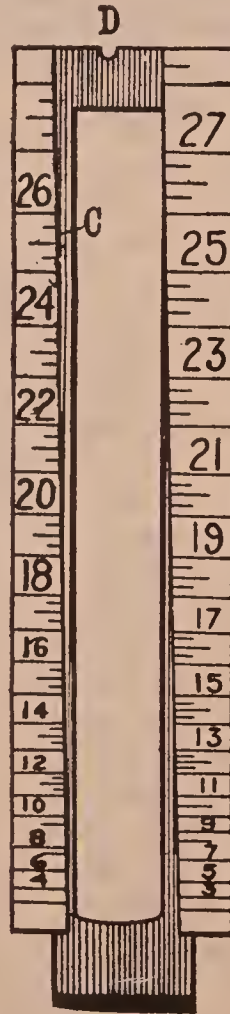

Fig. 26.
The leaf of the rear sight (Fig. 26) has the undercut for the drift slide (C) and the sighting notch (D). The lines extending across one or both branches of the leaf are 100-yard divisions, the short lines are 50-yard divisions, and the shorter lines are 25-yard divisions. The numbers on the uprights represent hundreds of yards and are on top of the lines which they indicate. For example; the 800-yard line is just underneath the figure 8.